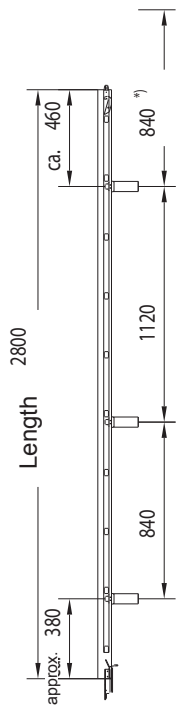

Fig. 8
- Length 2,520 mm: 9 kg (Fig. 8)